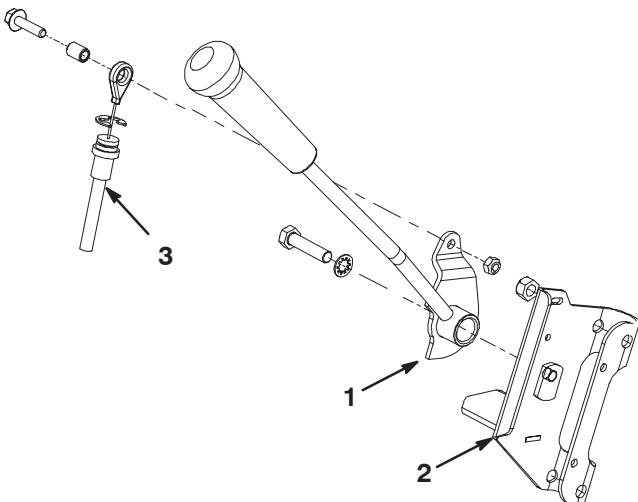

Figure 1
- Remove the screw and lock washer securing the brake lever to the brake bracket (Fig. 1).
- Remove the screw, spacer and nut securing the brake cable to the brake lever (Fig. 1). Allow the brake lever to hang in the slot in the console.
25. Secure the brake cable to the brake lever with the screw, spacer and nut previously removed (Fig. 1).
26. Secure the reel lever pivot pin to the control bracket with the screw previously removed (Fig. 1).
27. Secure the brake lever to the brake bracket with the screw and lock washer previously removed (Fig. 1).